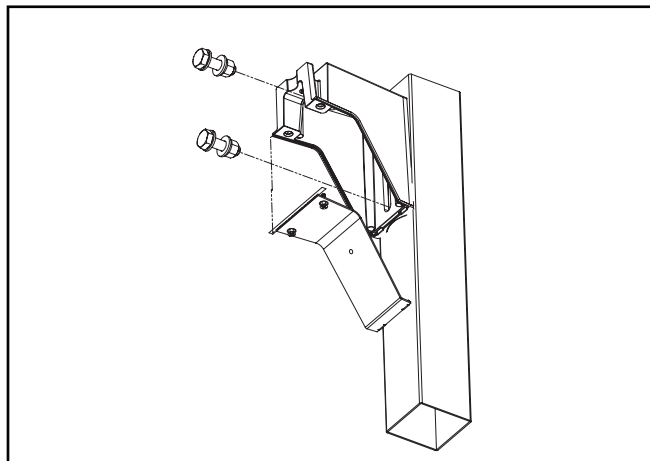

Figure 7.
2. Mount the arm to the round or square pole using the provided 1/2" x 1-3/4" long bolts, washers and nuts. Torque bolts to 40 foot-lbs (55 N-M). (Figure 7.)